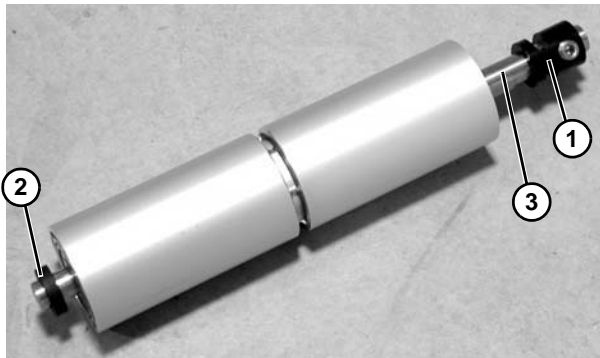

Figure 107
8. Remove the tension pulley locking collar (**Figure 107, item 1**), spacer (**Figure 107, item 2**) and pulley shaft (**Figure 107, item 3**) from the roller pulley shaft assembly.